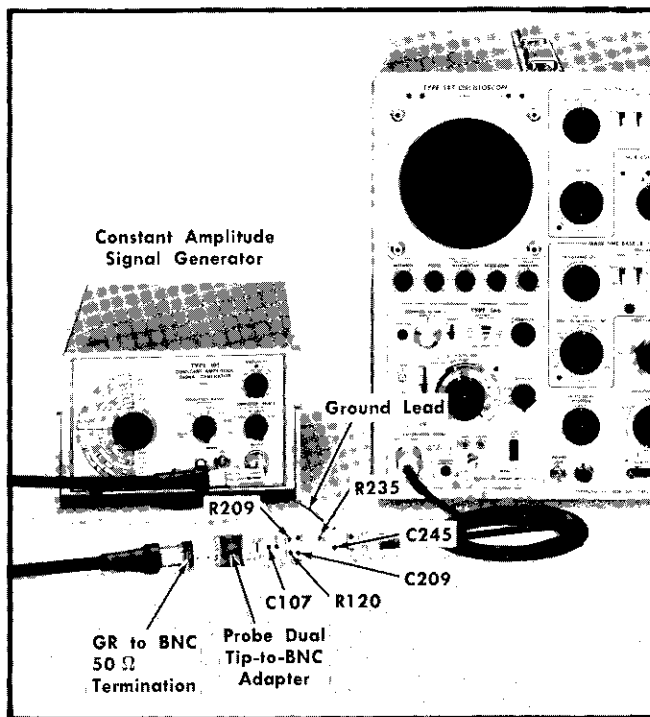

Fig. 6-17. Equipment setup for CMRR adjustment, step 10.
a. The preliminary control settings apply. The equipment setup and adjustment locations are shown in Fig. 6-17.
j. ADJUST—50 kHz CMRR. Adjust 50 kHz CM BAL (R120, Fig. 6-17) for minimum display amplitude; then adjust GAIN SWITCHING BALANCE (R235, Fig. 6-17) for a centered display.
m. ADJUST—AC-coupled CMRR. With the vertical deflection factor control at 1 mV, adjust C107 (Fig. 6-17) for equal AC-coupled and DC-coupled display amplitude. Switch the Probe Input Coupling switch back and forth between AC and DC for comparison purposes; 0.5 div or less for 10,000:1 or greater CMRR.
p. ADJUST—High frequency CMRR. With the Constant Amplitude Signal Generator set for a 1.0 V peak to peak output, adjust for minimum display amplitude in the sequence listed in Table 6-4. See Fig. 6-17 for adjustment locations.